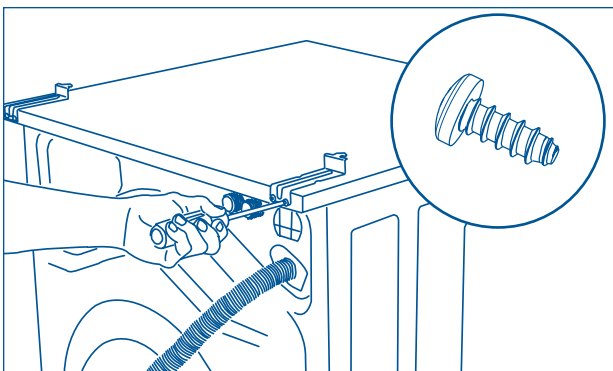

Figure 2-45.
3. Attach each rear bracket to washer top with 2 #10 screws. (See Figure 2-45)